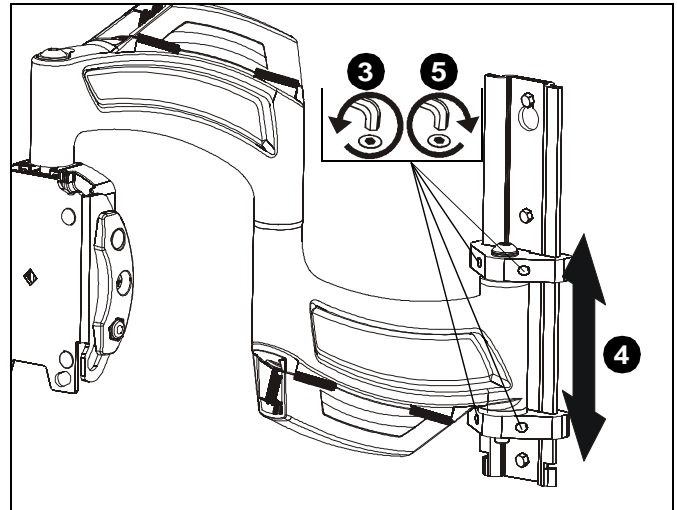

Figure 16
3. Use 1/8" hex key (U) to loosen four height adjustment screws. (See Figure 16)
4. Raise or lower mount until desired height is achieved. (See Figure 16)
5. Tighten four height adjustment screws. (See Figure 16)